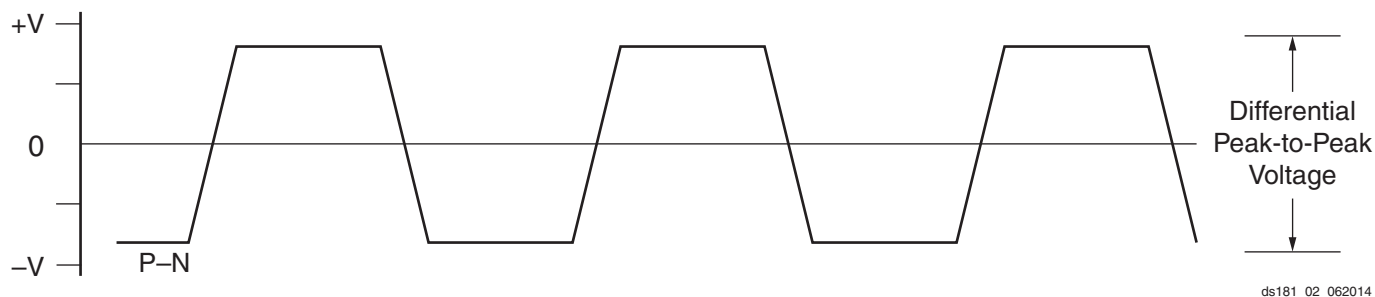

Figure 4: Differential Peak-to-Peak Voltage
**Note:** In Figure 4, differential peak-to-peak voltage = single-ended peak-to-peak voltage x 2.